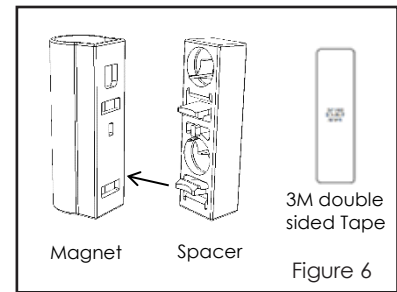

Figure 6
3. Spacers are used to raise the level of the magnet to be level/closer to sensor. The spacers are 6.5 mm (1/4") thick. If needed, install spacers as shown in Figure 6.